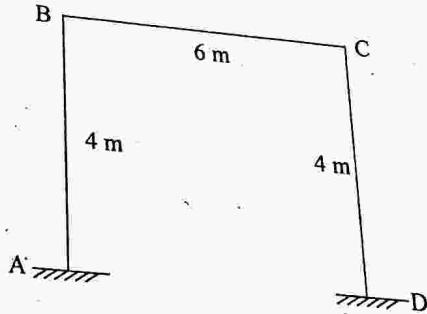

Fig. 10(B)
10. (A) Derive the element/member Stiffness matrix for plane frame member. 7
- (B) Frame the global load matrix for the portal frame in Fig. 10 (B) accounting the effect of temperature difference. Take external temperature = 20°C , internal temperature = 50°C , $\alpha = 1 \times 10^{-5}/^{\circ}\text{C}$, size of column = (230×500) mm and size of beam = (230×650) mm.